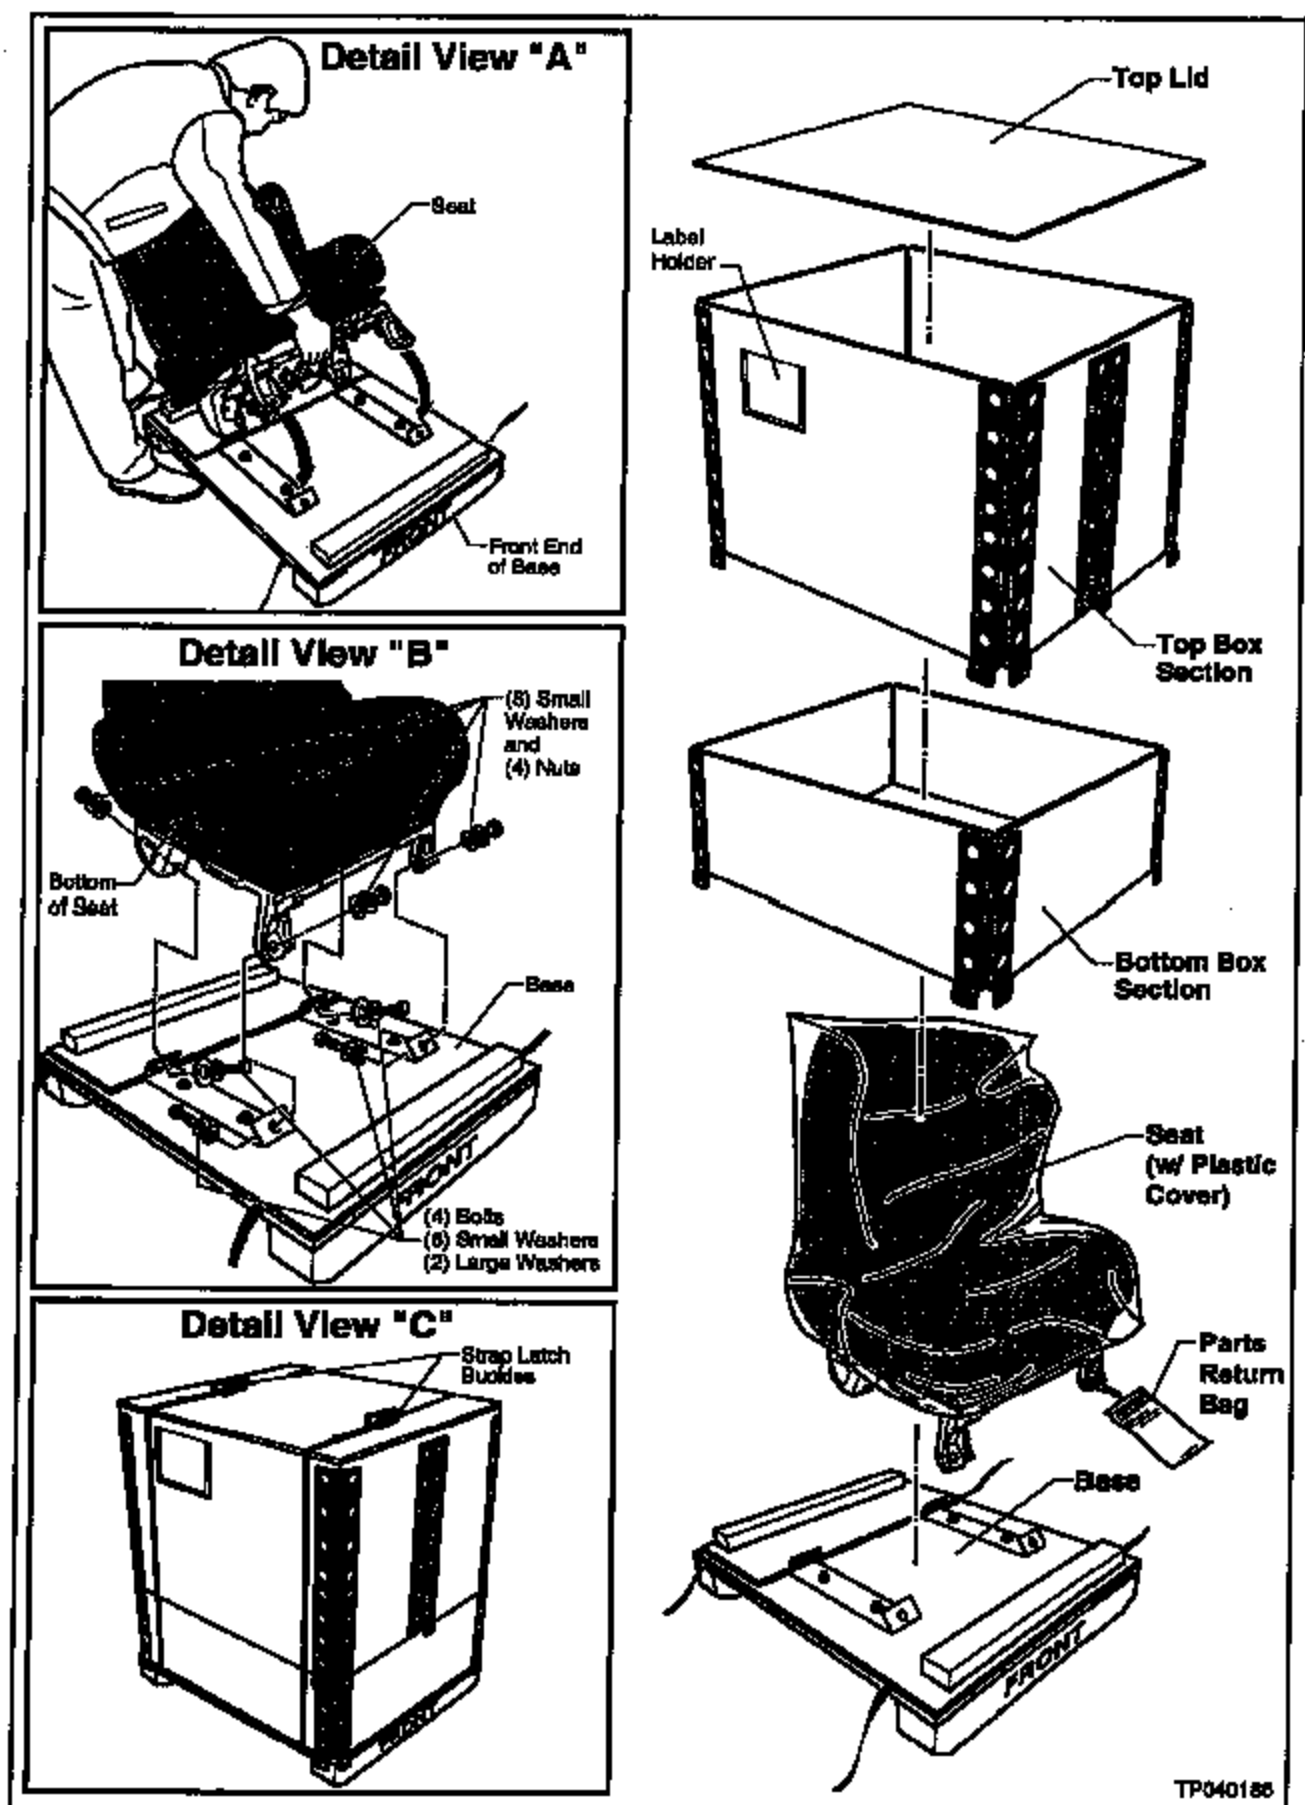

Figure 12
- **All-Plywood Seat Packaging Crate (see Figure 12)**
- e. Carefully install the Bottom Box Section onto the Base (see Figure 12).
- f. Carefully install the Top Box Section onto the top of the Bottom Box Section (see Figure 12).
- g. Carefully install the Top Lid onto the Top Box Section (see Figure 12).
- h. Tighten down the re-useable Straps so the Latch Buckles are positioned on top of the Crate (see **Detail View C** in Figure 12).